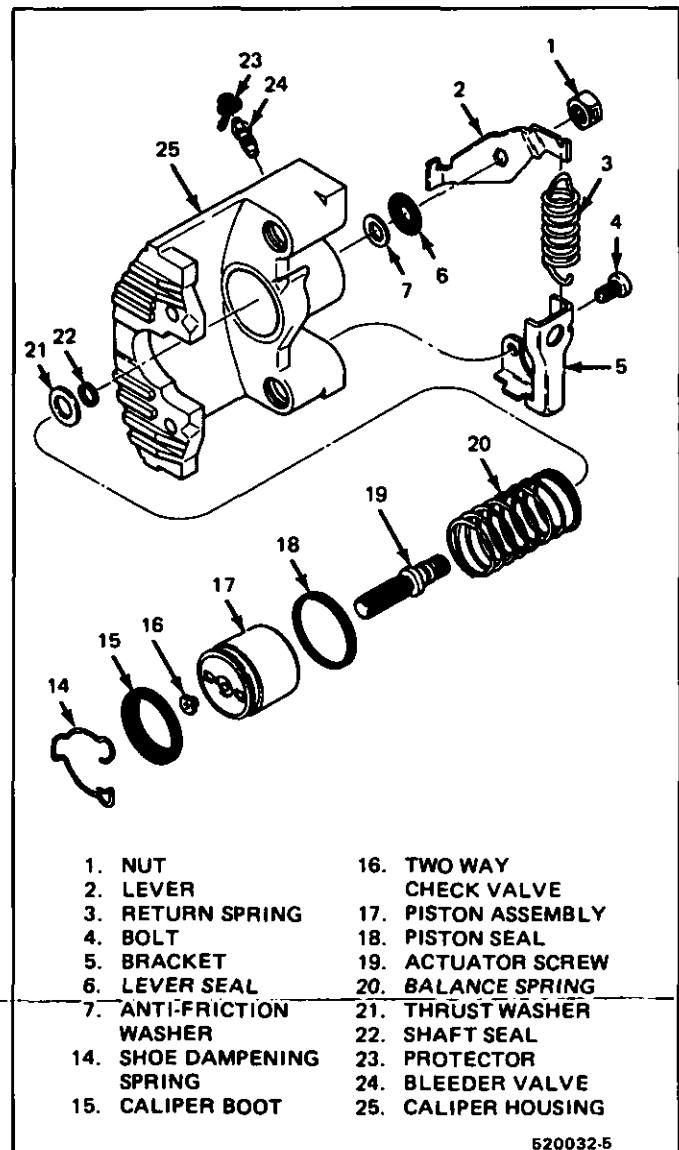
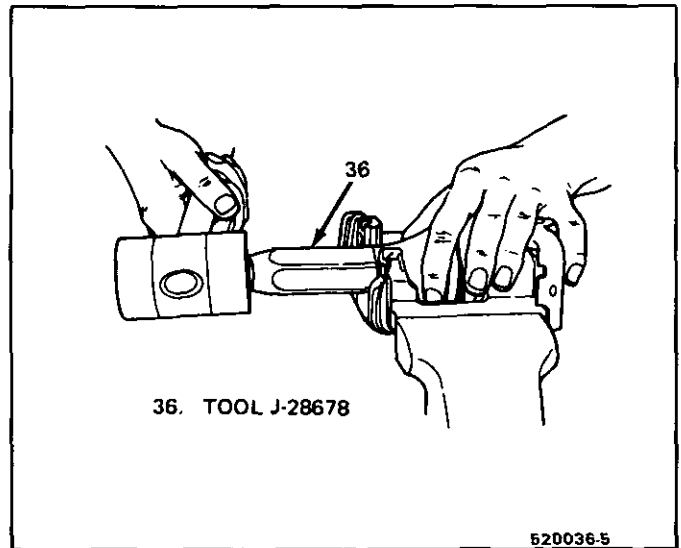

Fig. 9 Caliper Assembly
Fig. 13 Seating Boot Into Housing
- Make sure sealing bead on lever seal (6) is against housing (25) as shown in Figure 9.
- Install lever (2) on actuator screw (19).
- Rotate lever away from stop slightly and hold while installing nut (1).
11. Boot (15) (Figure 9) in caliper housing counterbore and seat using J-28678 (36) as shown in Figure 13.